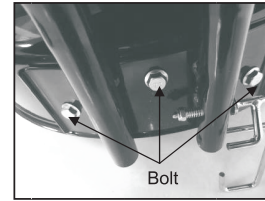
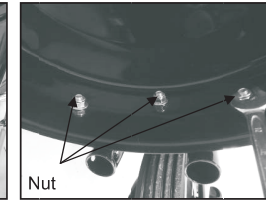

Fig.4A
Fig.4B
1. Fix the front caster wheel holder into the deck body with three hexagon bolts and hexagon locking nuts, adjust the tension by turning the locking nut with a suitable spanner (Fig. 4A /Fig.4B)